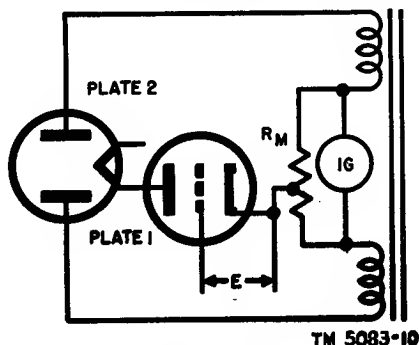

Figure 11. Basic mutual conductance circuit.
b. If the tube to be tested is substituted for the fixed load resistance and a fixed bias E is applied to the tube (fig. 11), the meter will still read zero because the tube under steady-state conditions acts like a fixed resistance.